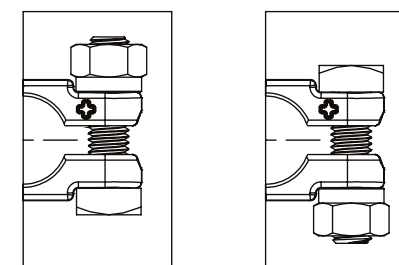

FIGURE 2
3. ATTACH THE BASE ASSEMBLY TO THE POSITIVE BATTERY POST OVER THE COVER. SECURE THE ASSEMBLY BY TIGHTENING THE M8 SHOULDER HEX NUT TO 12 ± 1 N·m. M8 NUT AND BOLT CAN BE ASSEMBLED IN LEFT OR RIGHT HAND ORIENTATION FOR BEST ACCESS DURING ASSEMBLY (FIGURE 2).